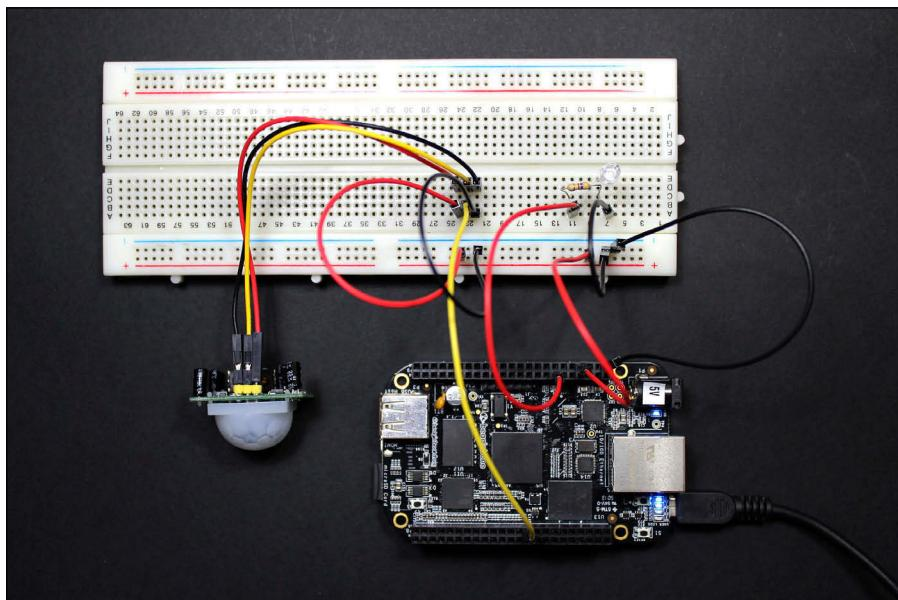

Figure 8-10:
- ▀ ✓ If no motion is detected, the LED remains off, and `No motion detected` is printed on your console (see Figure 8-10).